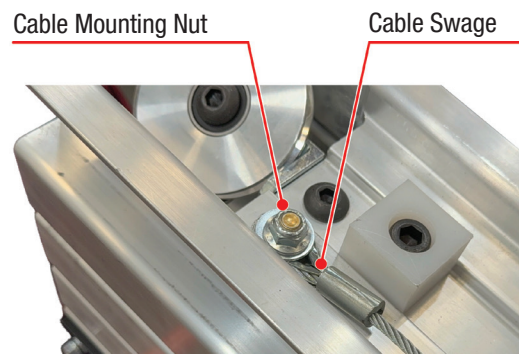

Figure 4-4: Cable Mounting Location
7. Locate the cable end mounting point at the top of the front mast (see Figure 4-4). Using a 3/4 in. wrench or socket, remove the cable mounting nut and washer to disconnect the swaged cable end from the mast. Save the mounting nut and washer for re-installation.
10. Using the cable mounting nut and washer removed in step 7, attach the swaged end of the new cable to the cable anchor point at the top of the front mast (see Figure 4-4).